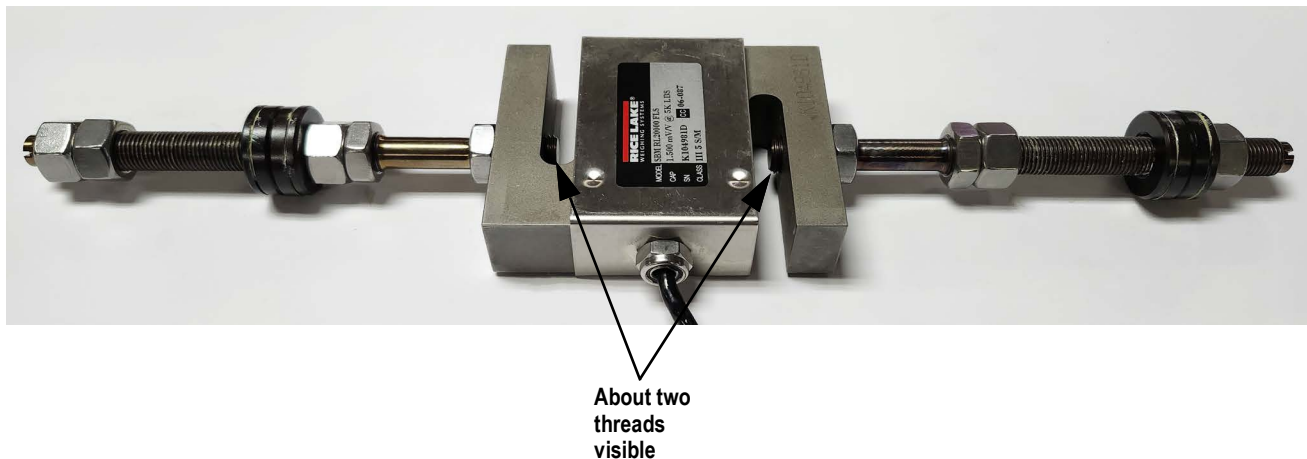

Figure 7-5. Rod Threaded into Load Cell
- The flexure rod (#8) is threaded into the load cell with about two threads showing (see Figure 7-5)